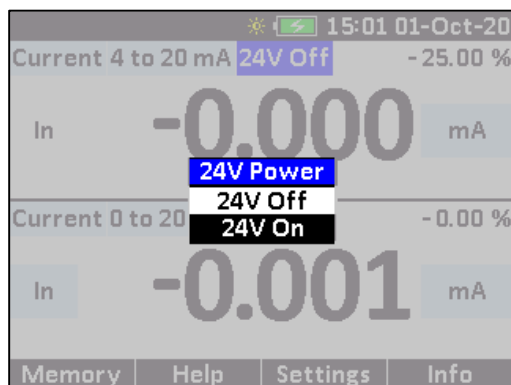

Figure 13
3. Connect the leads to the isolated inputs of the calibrator, as shown in Figure 13.